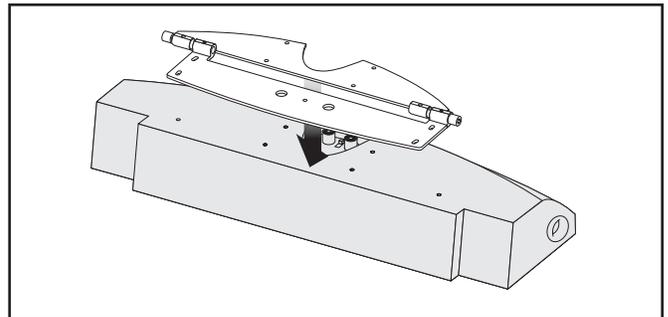

Figure 14. Align the 6 holes on the mounting bracket with those of the Fresco
- 4 Align the 6 holes in the Fresco i's wall mounting bracket with the holes on the back of the Fresco i's cabinet. Please note that the wall bracket should lie flat against the Fresco i cabinet with the hinges along the flat, straight edge of the cabinet (see figure 14).